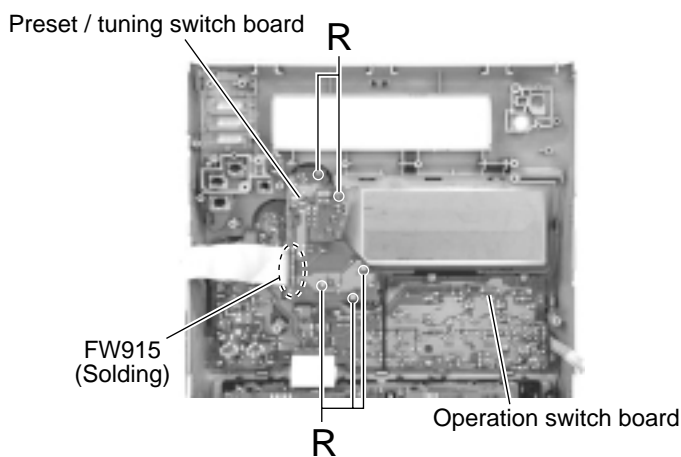

Fig.36
■ Removing the preset / tuning switch board (See Fig.36 and 37)